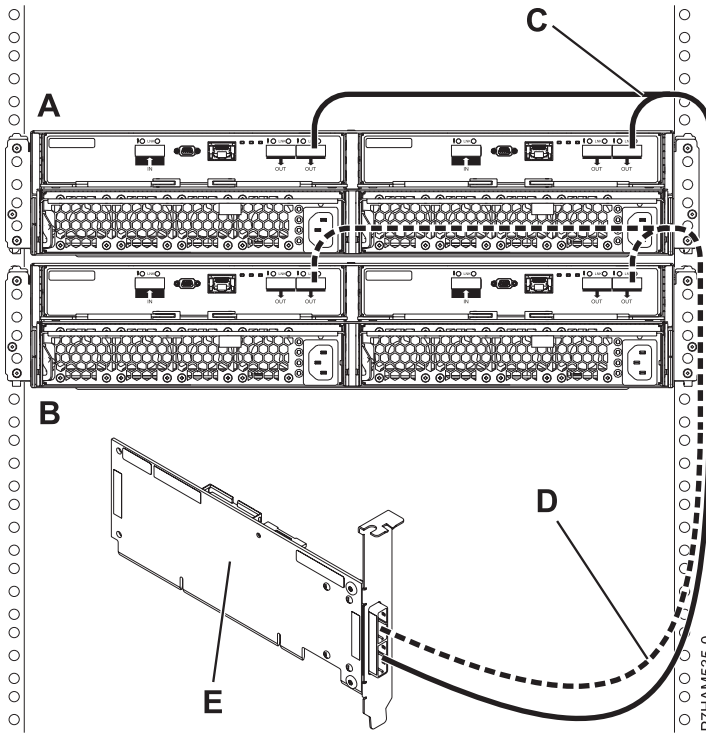

Figure 13. Mode 1 connection of two 5887 disk drive enclosures by using YO cables to a single SAS adapter
14. Perform the mode 1 connection of two enclosures (A and B) by using YO cables (C and D) to a single SAS adapter (E). See Figure 13 on page 14.